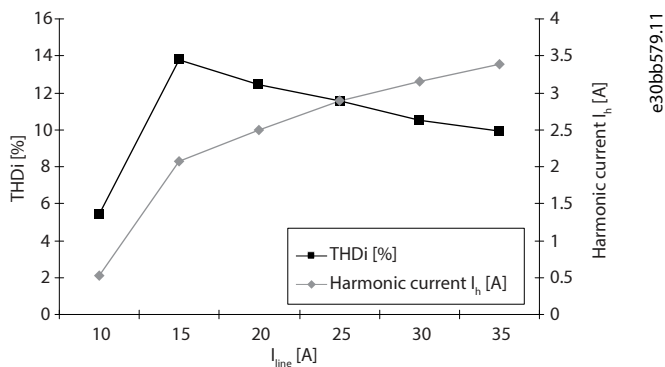

Figure 9: THDi Versus Load
1) The total harmonic current has been calculated. The THDi versus load plot is shown in Figure 9.